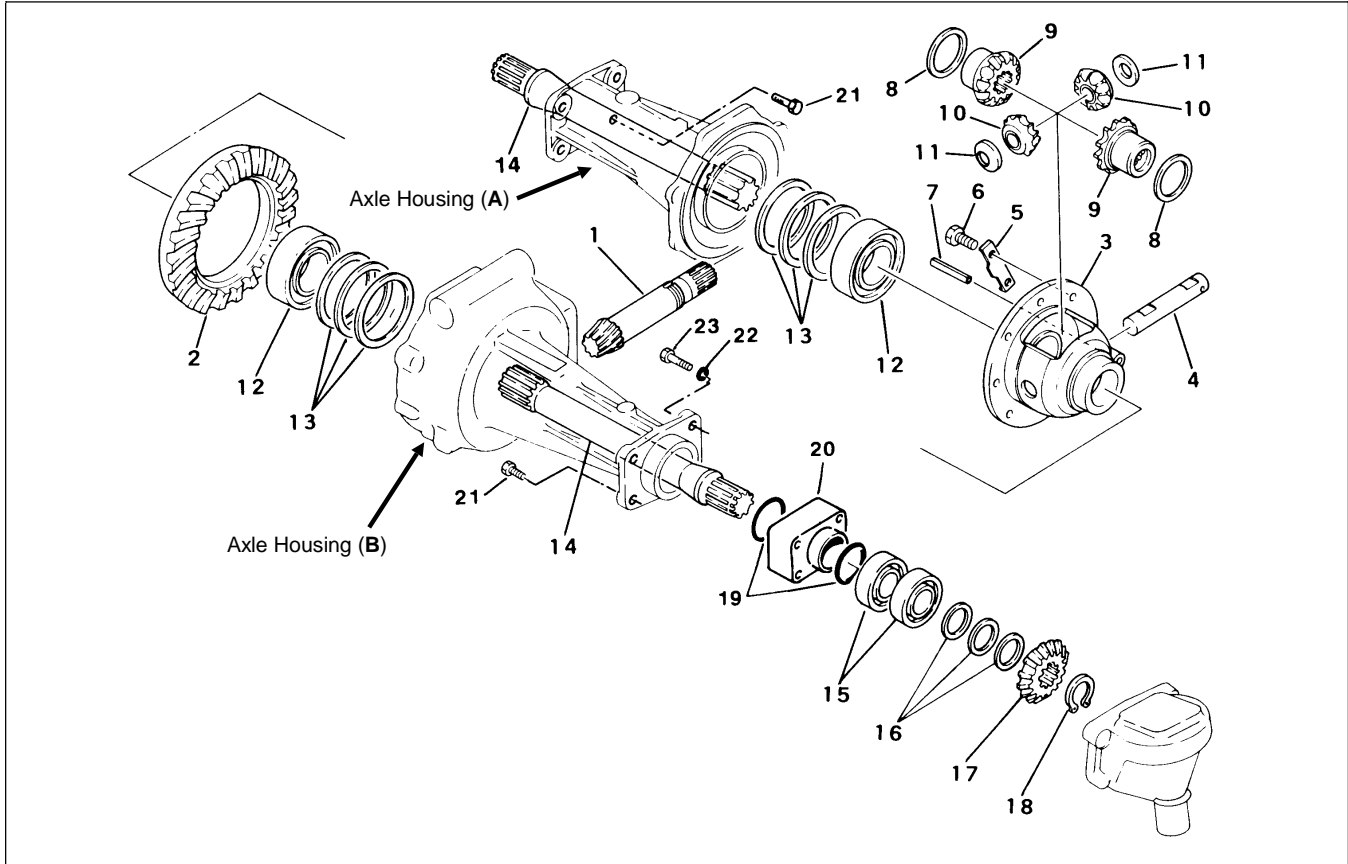

Figure 17
2. Remove bolts (Fig. 17, Item 23 and 21) securing gear case to axle housing and pull gear case complete with final drive case.
4. Pull out differential shaft (Fig. 17, Item 14) from housing (B).
5. Remove differential gear assembly (Fig. 17, Items 3 - 11) from axle housing (A).
6. Pull out differential shaft from housing (A).